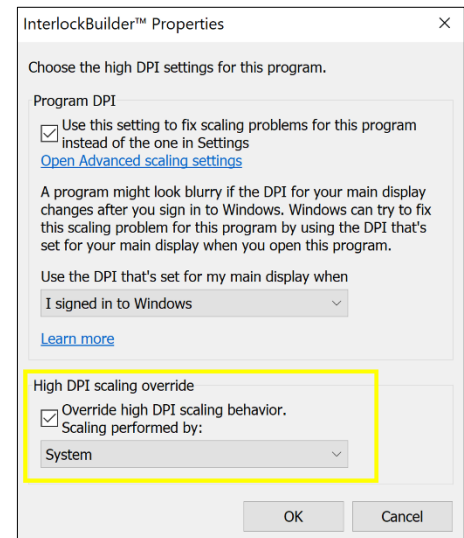

Figure 11 - High DPI Settings
- 4) Change the following High DPI scaling override settings (Figure 11 - High DPI Settings):